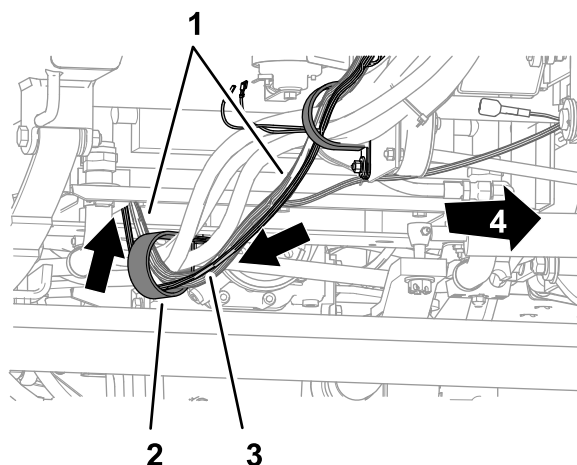

Figure 40
3. Route the wire harness branches and trunk through the R-clamp I below the floor plate and behind the front axle (Figure 40).